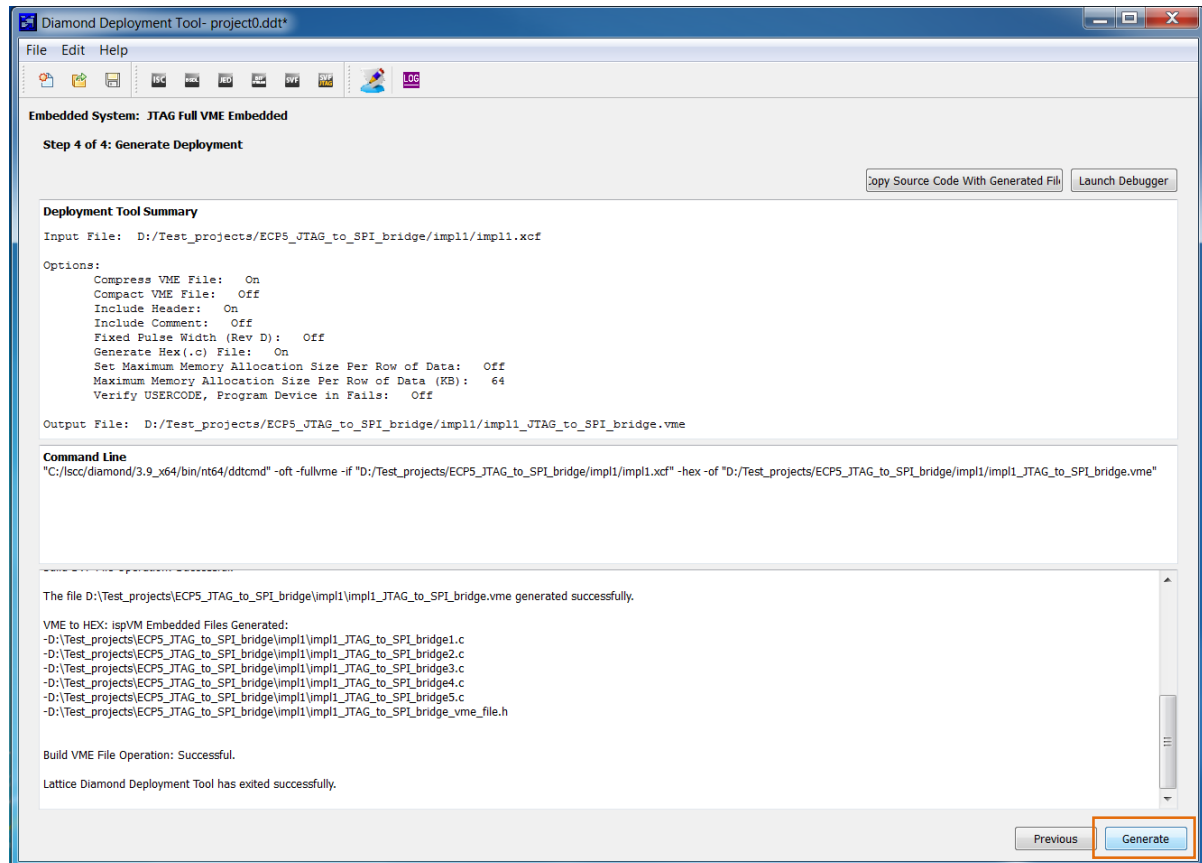

Figure 7.5. Step 4 of 4: Generate Deployment
- In **Step 4 of 4: Generate Deployment**, shown in Figure 7.5, click **Generate** to generate the *.vme file that is used by the embedded application.